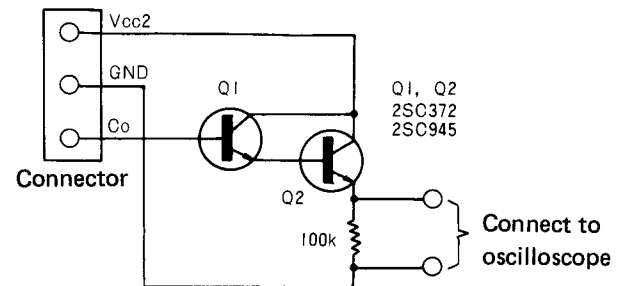

Fig. 9.14 Buffer Amplifier
2. Connect the buffer amplifier shown in Fig. 9.14 to the 3P connector from the motor base plate, and connect the output to a oscilloscope (making the lead wire length less than 10cm to reduce the effects of extraneous electrical noise).